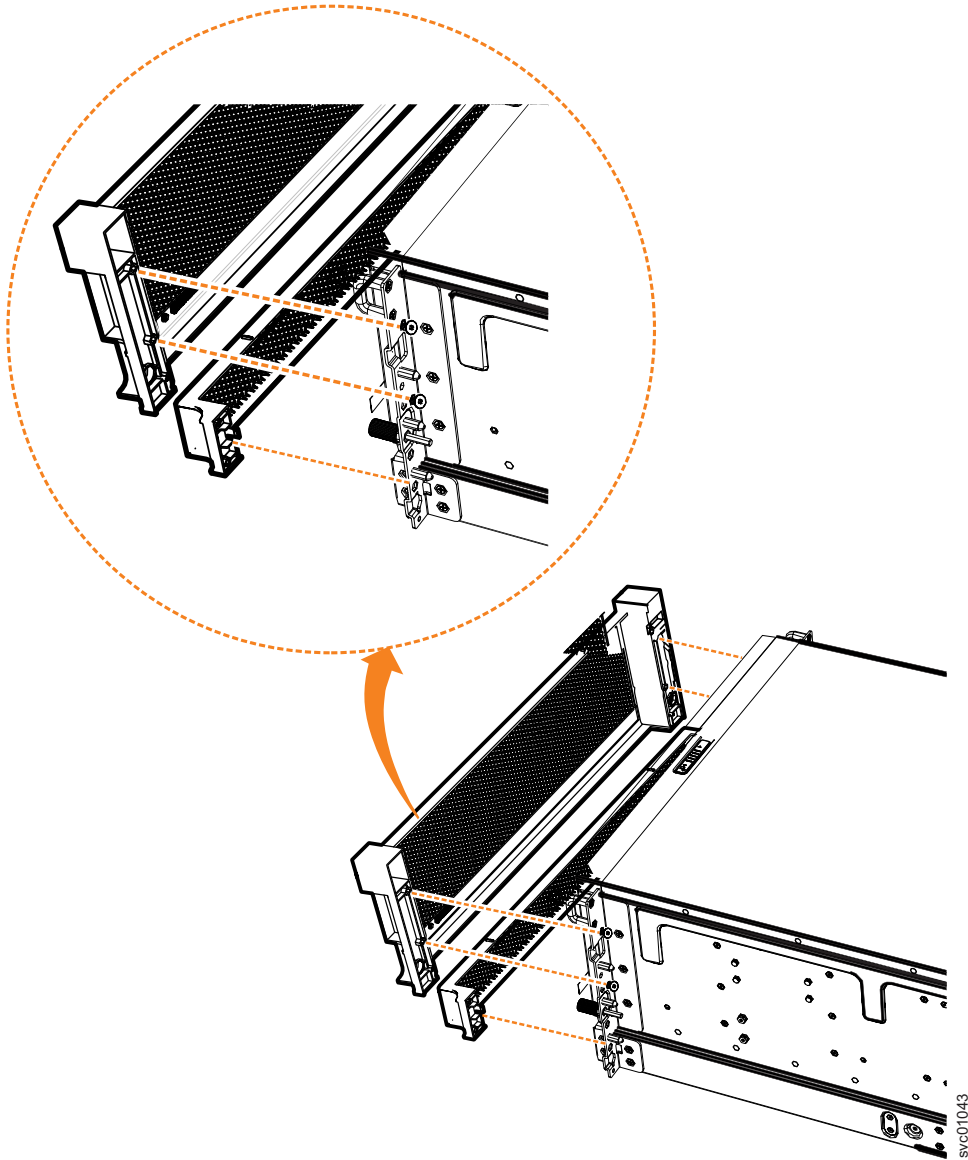

Figure 70. Remove fascia components from the expansion enclosure
2. Remove the front fascia by removing the two screws that attach the fascia to the flange on each side of the chassis, as shown in Figure 70 on page 216.
3. Gently pull on each side of the PSU fascia to remove it from the chassis, as shown in Figure 70. The PSU fascia disengages from the slot and pin that connect it to each side of the chassis.